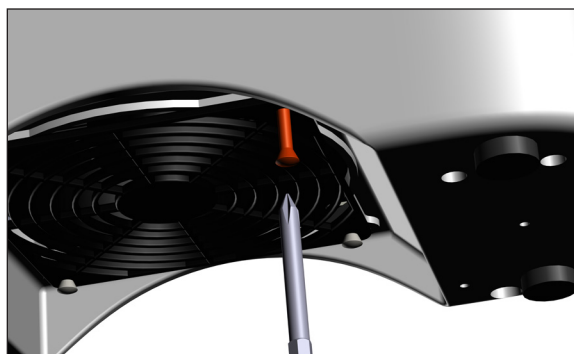

Figure 150 - Step 4 Insert screw #4
4. Insert screw #4 through the fan guard mounting holes ("Figure 150 - Step 4 Insert screw #4").